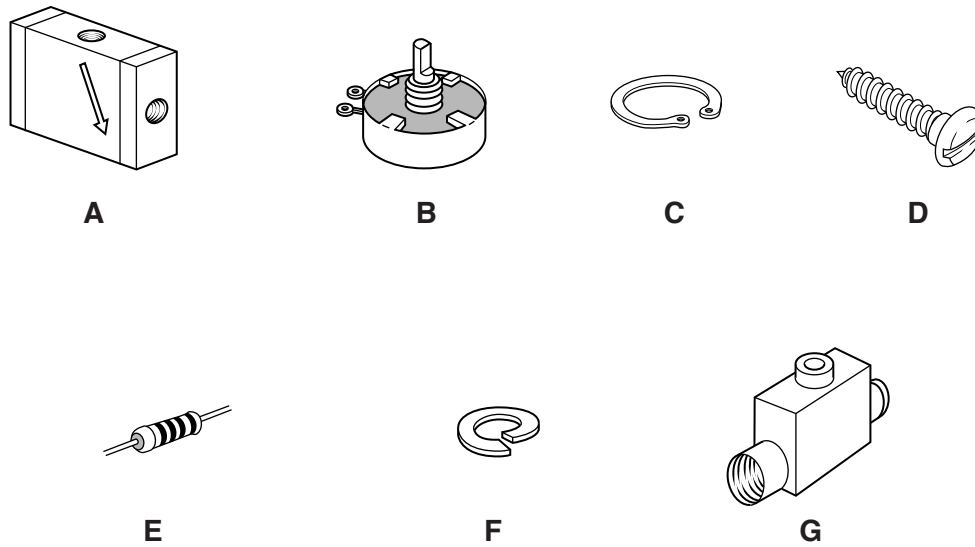

Fig. 2
4 Fig. 2 shows a number of engineering components.
- (a) Choose **three** components from Fig. 2. Complete the table below by giving the name and type of each component.